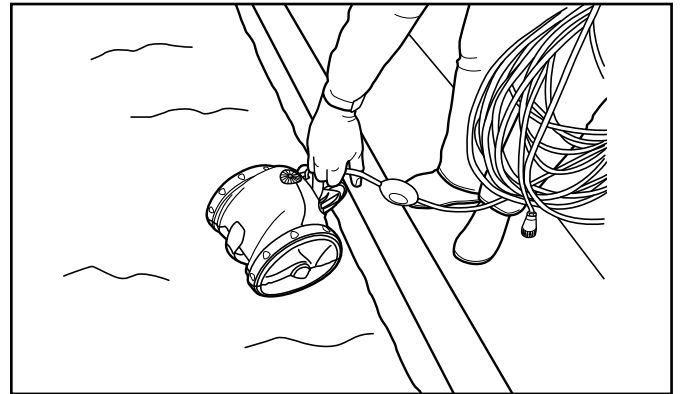

Figure 4. Submerge the Cleaner Vertically
1. While holding the cleaner by the handle, submerge the cleaner in the pool and remove any air trapped inside by keeping the unit vertical. Make sure that the cleaner sinks to the bottom of the pool. Refer to Figure 4.